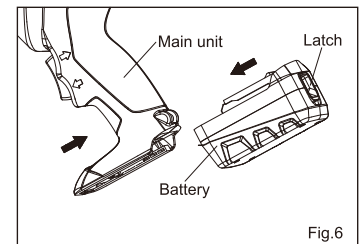

Fig.6
1.4 Remove the battery from the charger, then attach it to the main unit. (Fig.6)